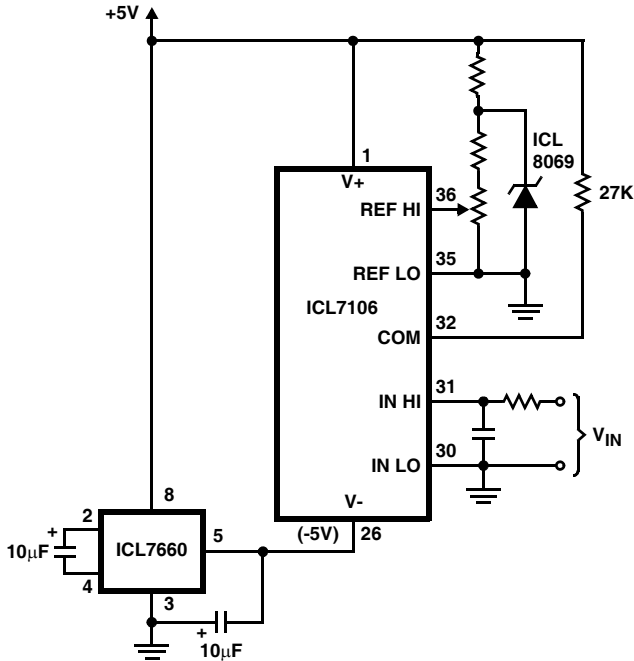

FIGURE 2. OPERATION FROM +5V SUPPLY WITH EXTERNAL VOLTAGE REFERENCE
**Action** - The connection to analog COMMON should be checked. If external voltage reference is used, the COMMON pin should have a pullup resistor of 27k $\Omega$  connected between it and the positive power supply, as shown in Figure 2.
**Action** - This is caused by the use of the internal reference of the ICL7107 in applications where external LED displays are also being driven. The power dissipated by the LED drivers causes internal chip heating which causes the internal voltage reference to drift. This can be avoided by using an external voltage reference such as the ICL8069, which is considerably more stable than the internal reference of the ICL7107. See Figure 2 for connections.